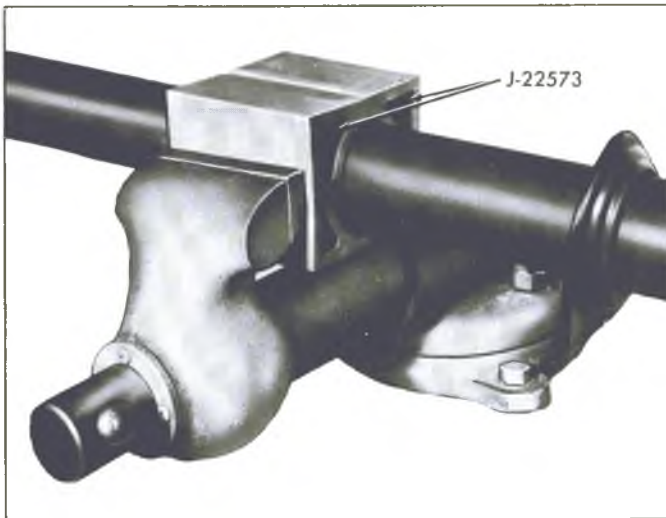

Fig. 90—Securing Column with J-22573
1. If the column is removed from the vehicle, place the column in a bench vise using Holding Fixtures J-22573 (fig. 90).